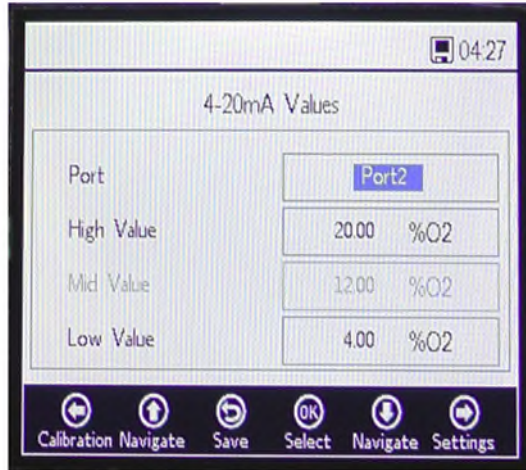

Figure 67. 4-20mA values for mode "Linear"
- **Linear:** The high and low value can be entered. Refer to Figure 67. The unit depends on the selected output and oxygen sensor. If the output is set to Temperature, the unit is always °C. Otherwise, the output depends on the oxygen sensor (the oxygen unit selected in the measurement screen will explicitly NOT be used):